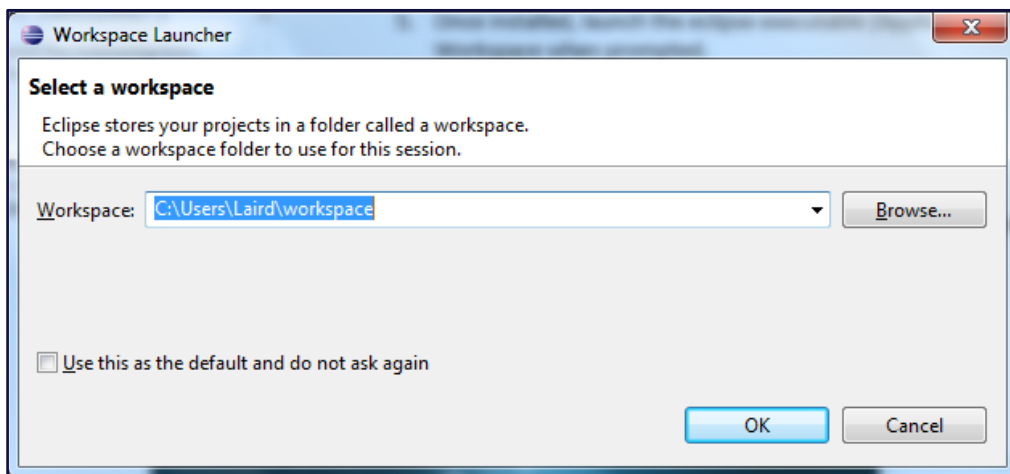

Figure 4: Eclipse default workspace
- Once moved, launch the Eclipse executable (Application). Use the default **Workspace** when prompted (Figure 4).